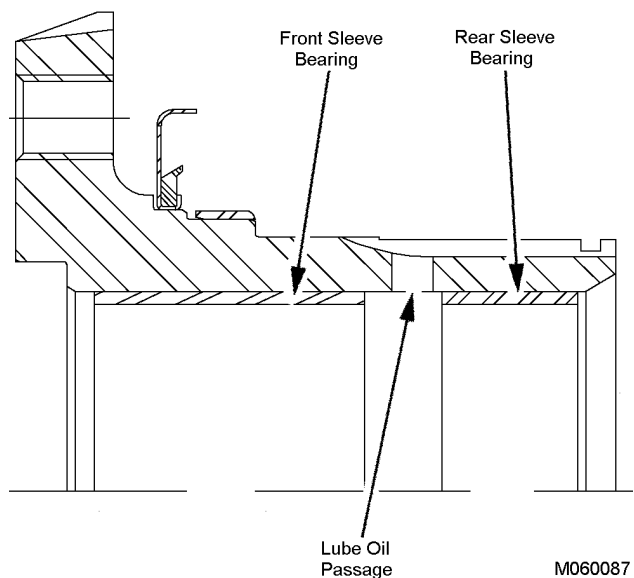

FIGURE 7-40.
3. Using tooling (A), press front (long) sleeve bearing (44) into the fan mounting hub until the tool contacts the shoulder of the hub. Ensure the correct bearing is installed. There are two sleeve bearings, and each one must be installed in the proper area of the hub to ensure the lube passage is not restricted. Refer to Figure 7-40.